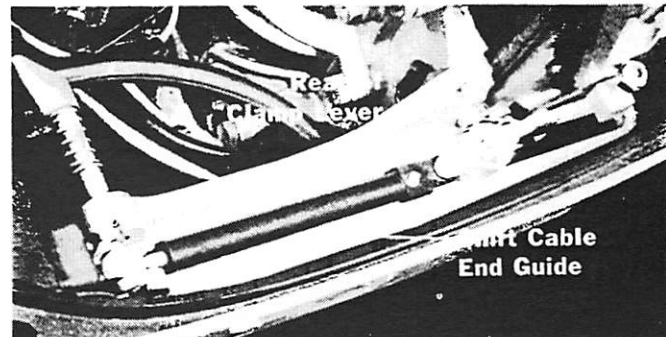

Figure 8. Positioning Lever over Cable End Guide
- Press down on rear of clamp lever and position lever over cable end guide as shown in Figure 8.